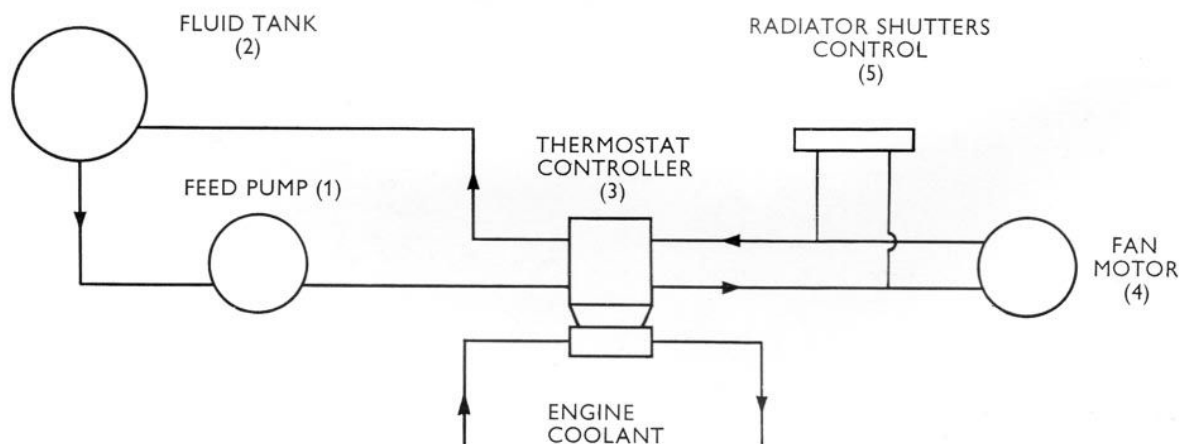

FIG. 1. SERCK-BEHR HYDROSTATIC SYSTEM
The Serck-Behr hydrostatic fan control system (Fig. 1) is governed by the fan thermostat controller which is sensitive to the engine coolant temperature. The thermostatically controlled axial flow fan maintains the coolant temperature constant irrespective of variations in ambient air temperature and engine load. The fan controller also automatically governs the fan speed infinitely between standstill and maximum speed by the by-pass regulation of the oil.
Assuming the engine is starting up from cold, the positive displacement hydraulic Plessey pump (1) (Fig. 1), which is mounted on and directly driven by the engine, draws hydraulic oil from the tank (2) and delivers it to the fan thermostat controller (3). The controller sensitive to the engine coolant temperature, governs the speed of the fan motor by by-pass regulation of the hydraulic oil.